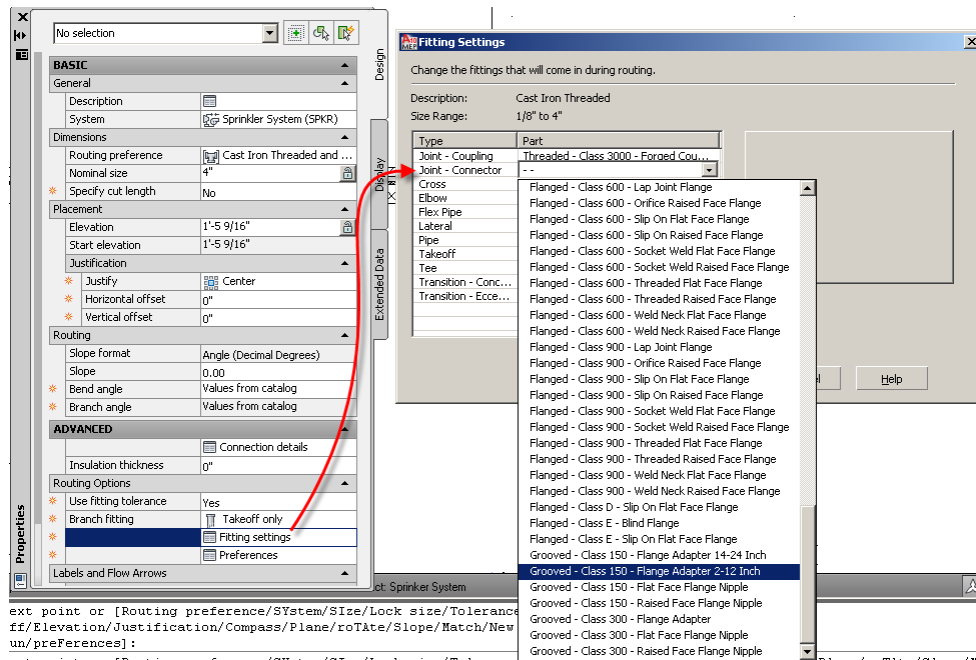

Figure 6.38
13. On the Properties palette, in the Advanced grouping, click on the Fitting Settings worksheet icon (see Figure 6.38).